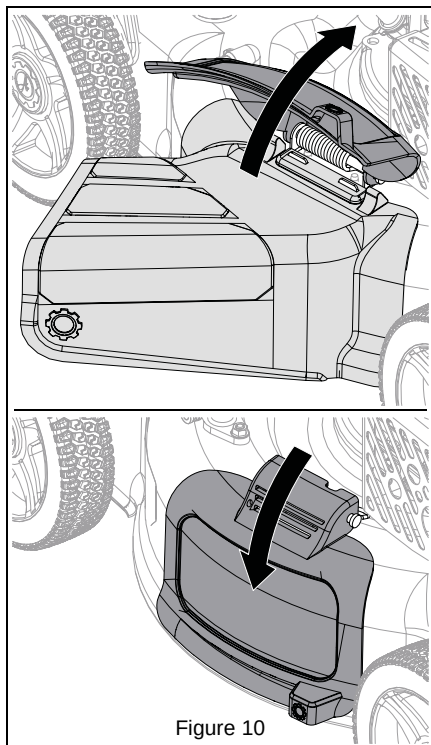

Figure 10
See Figure 10.
2. Lift discharge cover and remove discharge chute. See Figure 10.